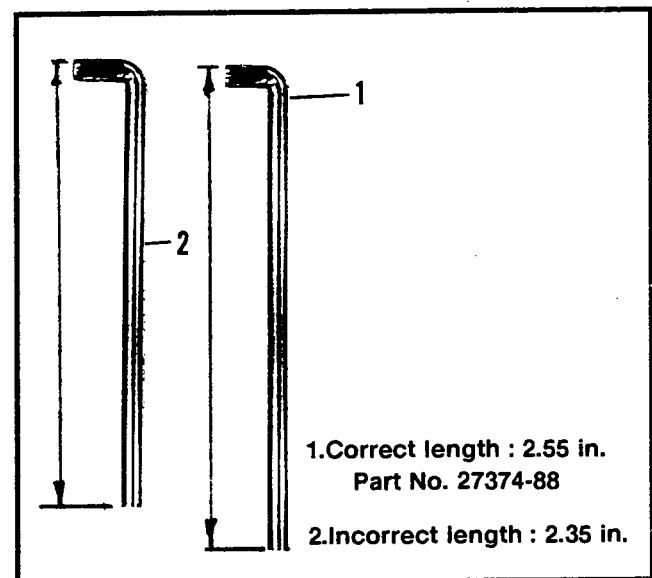

Figure 1. Correct and Incorrect Pump Rod Lengths
3. See Figure 1. Check the length of the push rod against the push rods shown in Figure 1. The correct length is 2.55 in. The short or incorrect push rod is 2.35 in long.